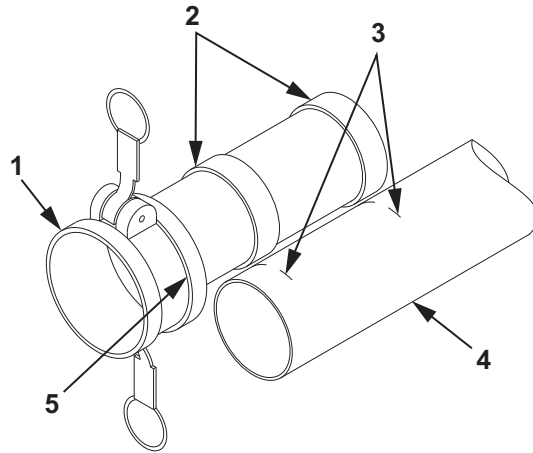

Figure 3. 4 In. X 10 Ft. Discharge Hose Repair.
8. Using the male or female coupling half (Figure 3, Item 1) as a guide, align the end of the hose (Figure 3, Item 4) with the machined stop (Figure 3, Item 5) of the male or female coupling half (Figure 3, Item 1).
9. Using a marking pen, mark two lines (Figure 3, Item 4) on the hose (Figure 3, Item 2) where the hose barbs (Figure 3, Item 5) will be located.